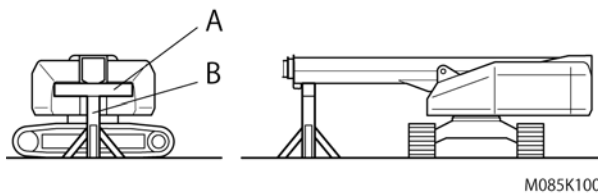

Fig. 2-2
2. Set the "Boom stand B" and the "Wood block A" under the 1st boom section as shown in the Fig. 2-2